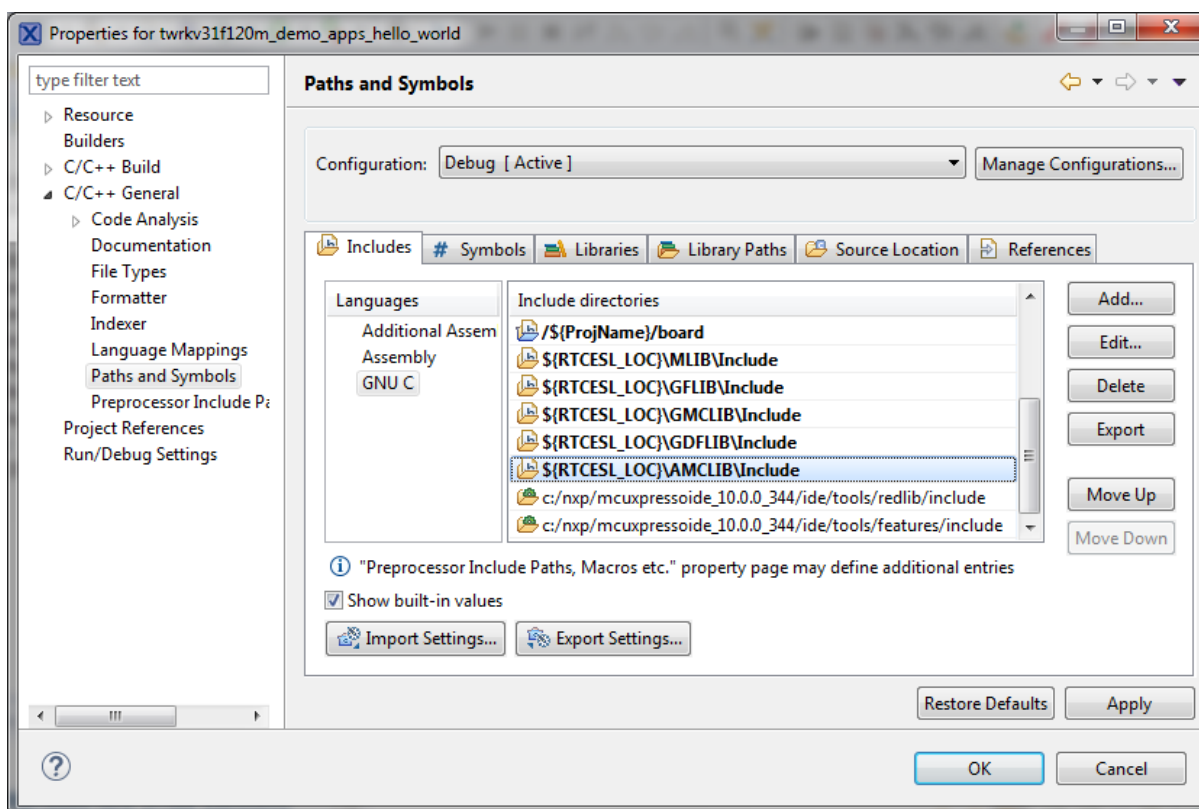

Figure 1-13. Compiler setting
27. In the right-hand dialog, select the Includes tab, and click GNU C in the Languages list. See Figure 1-13.
38. Click OK, and you will see the paths added in the list. See Figure 1-13. Click OK.